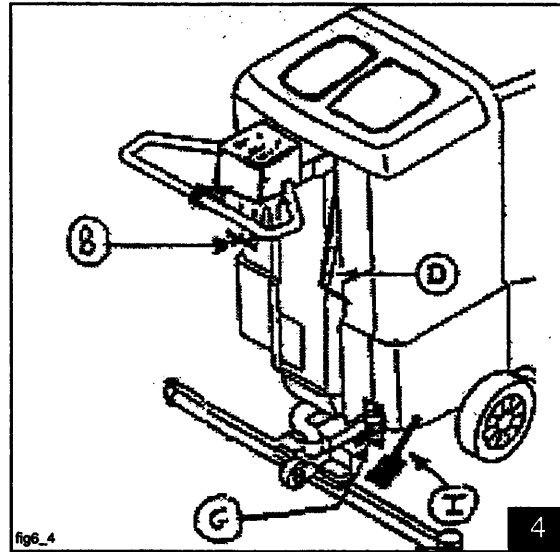

fig6\_4
Before removing the brushes, switch off the machine, check the head has lifted all the way up and the brushes have stopped; then press the emergency button and disconnect the battery connector **A** (fig.6).
- if the diaphragm sack is present in the tank remove the pump **A** (§7.2.6. fig. 6) from the sack and take out the diaphragm sack **B** (§7.2.6. fig. 7) from the tank;
## 6.7. COMBI ACCESSORY - USE (fig. 6)